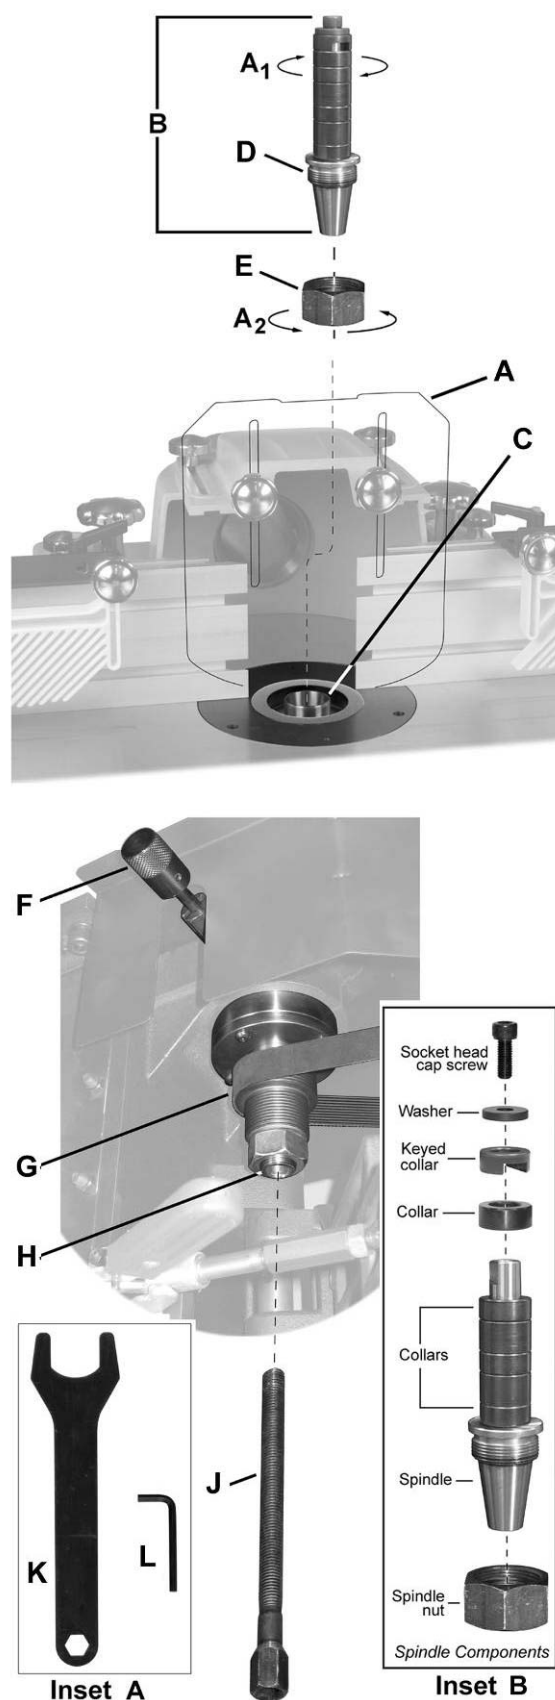
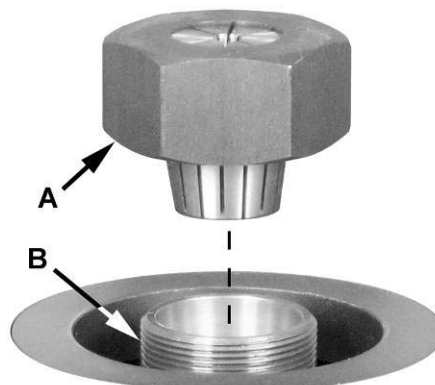

Figure 15
Figure 17
Refer to Figure 15. The *fence guard* (A) has been removed for clarity.
Referring to Figure 15:
1. Locate the *spindle lock* (F, Fig. 15) accessible through the door on the right side of the cabinet. Pull out and rotate 90° right or left, resetting the knob into the indent.
Attempt to turn the *spindle* (B, Fig. 15) by hand to verify that it is locked and will not rotate.
4. Pull out the *spindle lock* (F, Fig. 15) accessible through the door on the right side of the cabinet. Rotate 90° right or left, resetting the knob into the indent.
2. Place the *router collet* (A, Fig. 17) onto the *spindle* (B, Fig. 17) and secure with the *wrench* (K, Fig. 15) provided.
3. Unlock the spindle by pulling out the *lock knob* (F, Fig. 15) accessible through the door on the right side of the cabinet. Rotate 90° right or left, resetting the knob into the indent.
Turn the *router collet* (A, Fig. 17) by hand to verify that it turns freely.